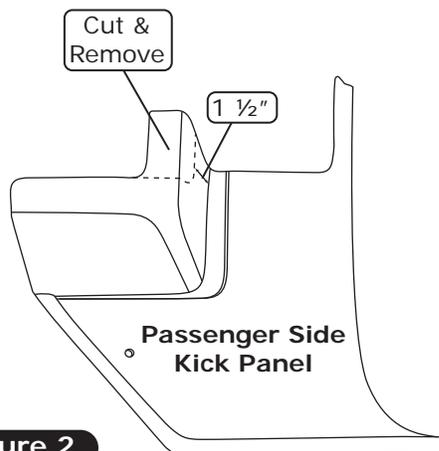

Figure 2
6. Modify the passenger-side kick panel as shown in Figure 2, below.